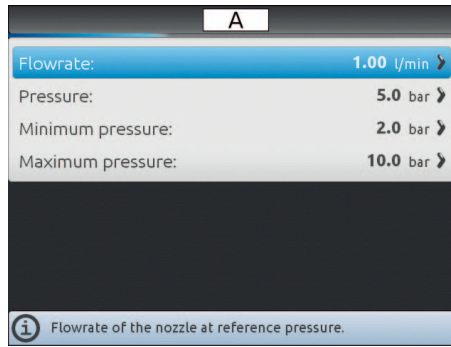

Fig. 94
- Enter the relevant features (Fig. 94).